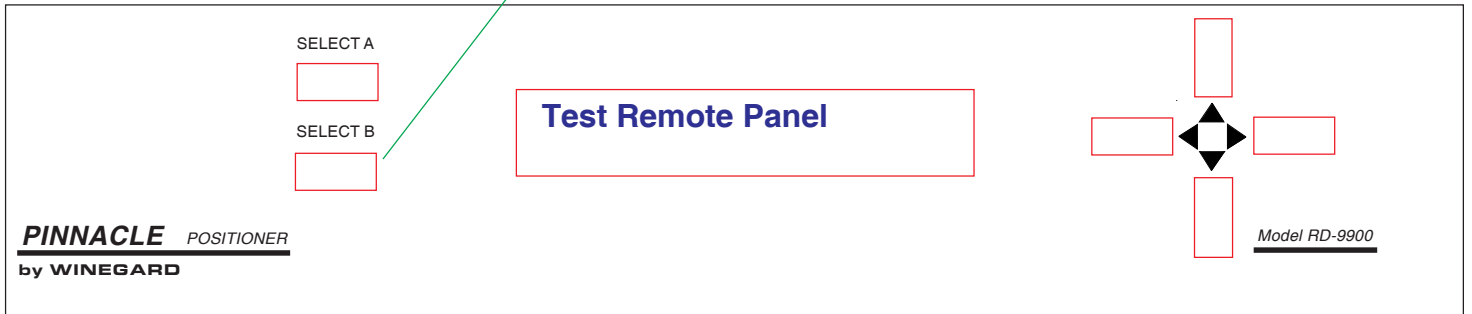

Figure 14
7. Press **[SELECT B]** to return to just **Test Remote Panel** being displayed, see Figure 14.